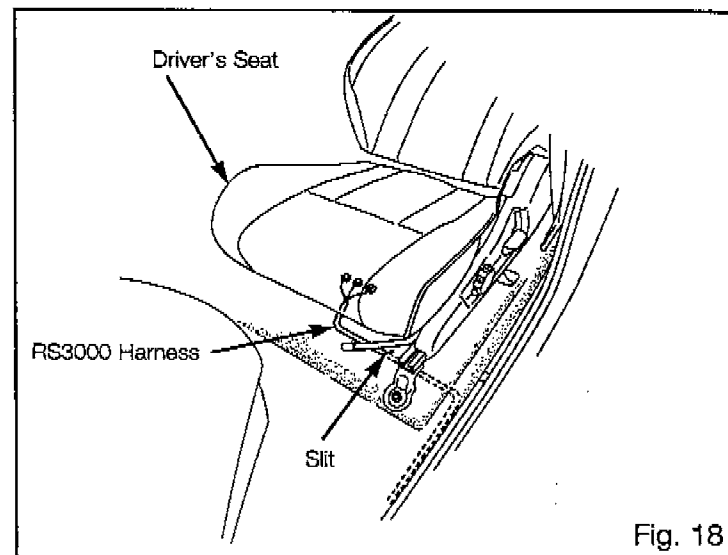

Fig. 18
- (1) Route the RS3000 harness' 10P, 10P and 4P connectors beneath the carpet under the driver's seat, and out through the large slit. Fig 18